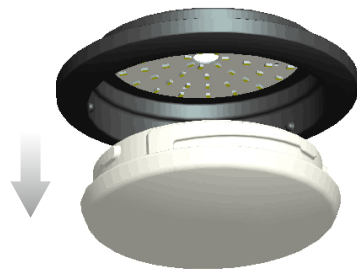

Fig 8.2
8.2 The light assembly after disassembly is shown in Fig 8.2.